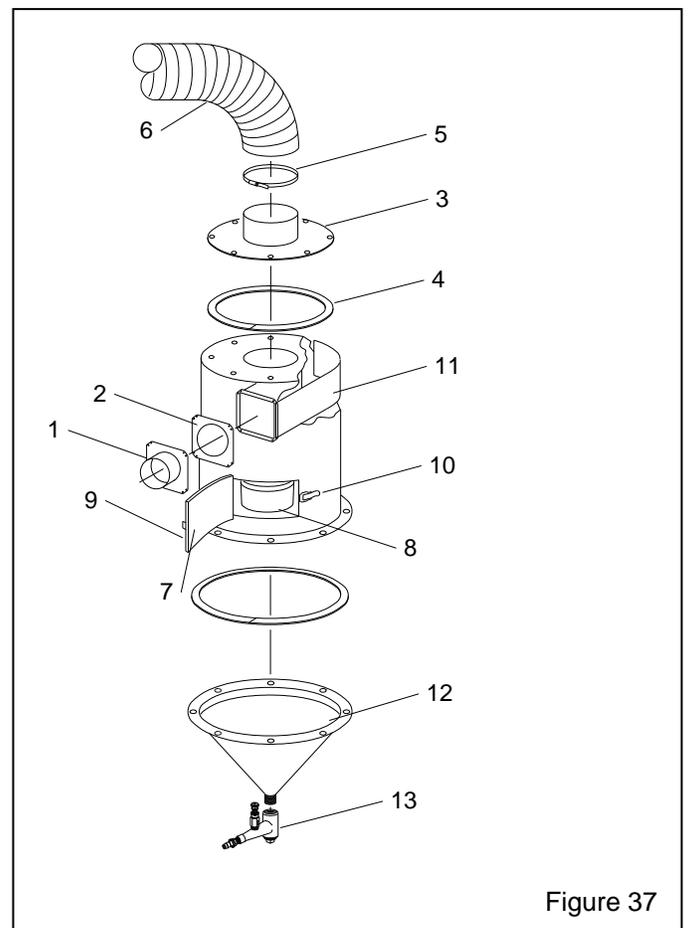

Figure 37
9.10 Reclaimer Assembly for Pulsar VI, Figure 37